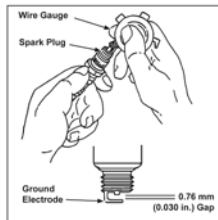

Figure 27. Servicing Spark Plug.
3. Check the gap using a wire feeler gauge. Adjust the gap to 0.76 mm (0.030 in.) by carefully bending the ground electrode. See Figure 27.